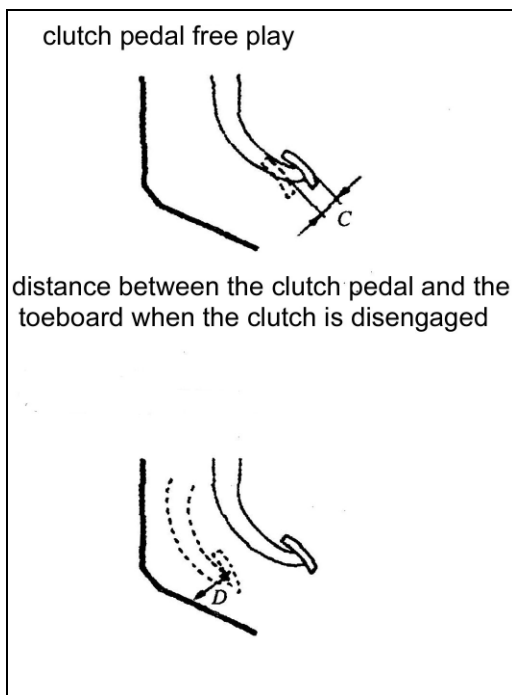

Fig.11-130
(6) After completing the adjustments, confirm that the clutch pedal free play (measured at the face of the pedal pad) and distance between the clutch pedal (the face of the pedal pad) and the clutch pedal stopper or toeboard when the clutch is disengaged are within the standard value ranges as Fig.11-130.